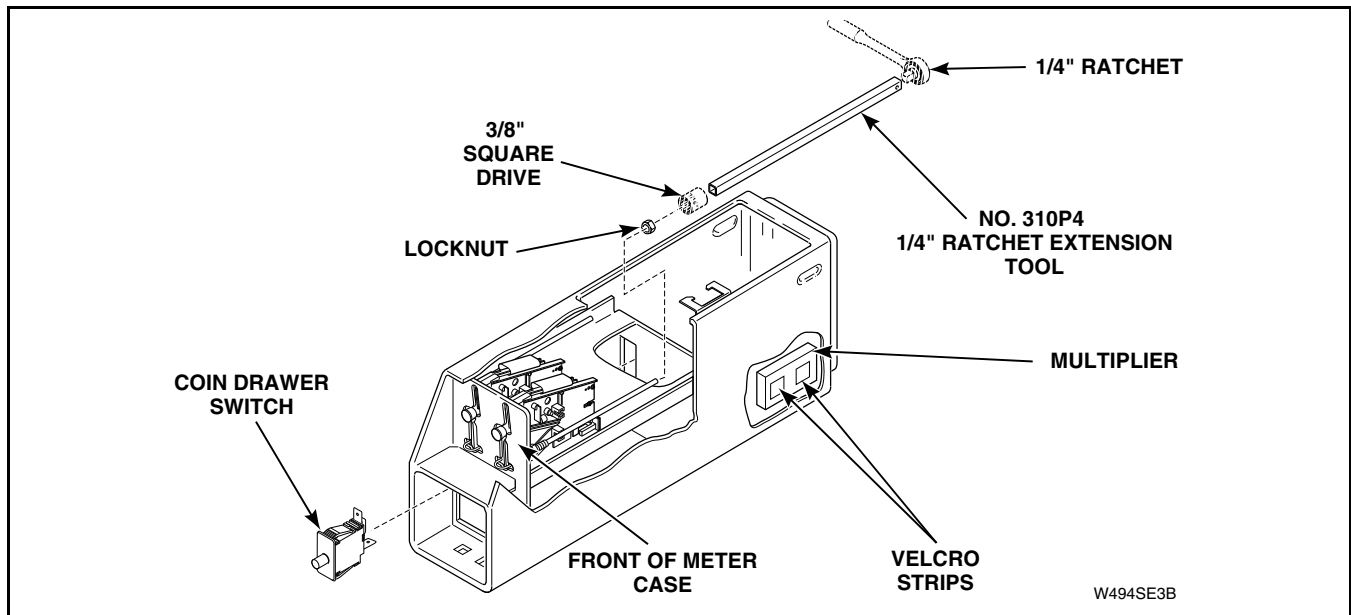

Figure 51
- (4) Remove wire harness from multiplier. Refer to *Figure 51*. Move wire harness out of the way.
- (5) Remove multiplier from inside meter case. Refer to *Figure 51*.
- (6) Press in on locking tabs of coin drawer switch and remove switch through front of meter case. Refer to *Figure 51*.
- (7) Use a 3/8 inch square drive with No. 310P4 1/4 inch Ratchet Extension Tool and remove two locknuts holding coin drop to front of meter case. Refer to *Figure 51*.
- (11) Reinstall multiplier and reconnect wires. Refer to *Figure 51*.
- (12) Close and lock service door.